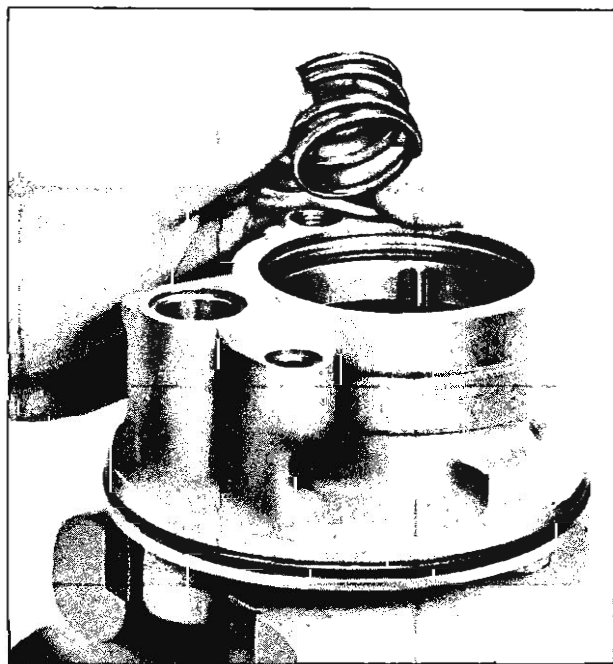

Fig. 74—Installing Pressure Plate Spring
8. Install pressure plate spring in center groove of pressure plate (fig. 74).